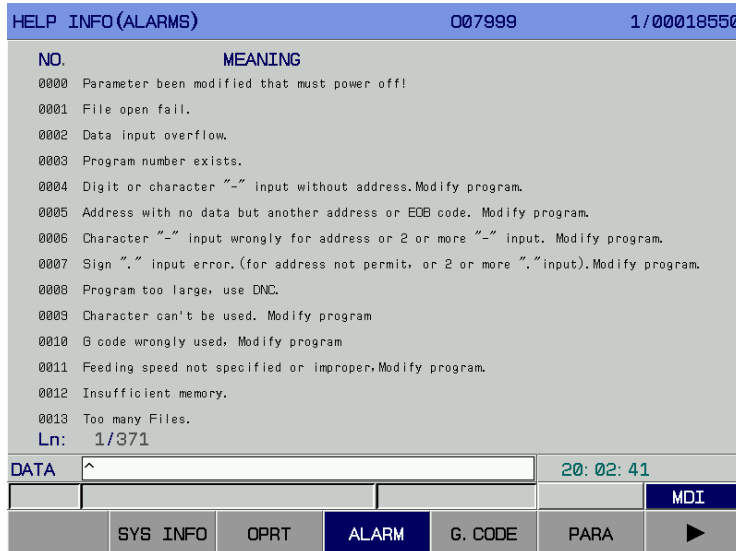

Fig. 3-9-3
3. For the alarm interface, press the [Alarm table] soft key on the <Help> interface to enter the help information (operation list) interface, as shown in Fig. 3-9-3.